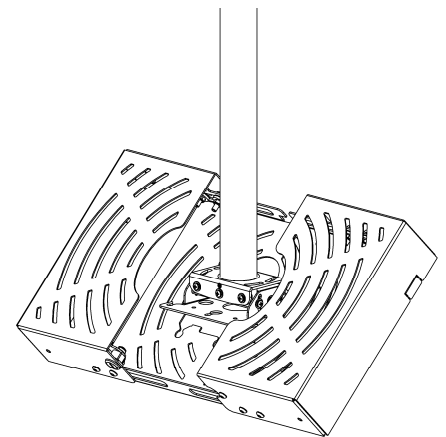

Figure 2. Place PL-1 on RPA
6. Tilt the lock side of the PL-1 down and route the RPA thru the hole in the PL-1 (see Figure 2).